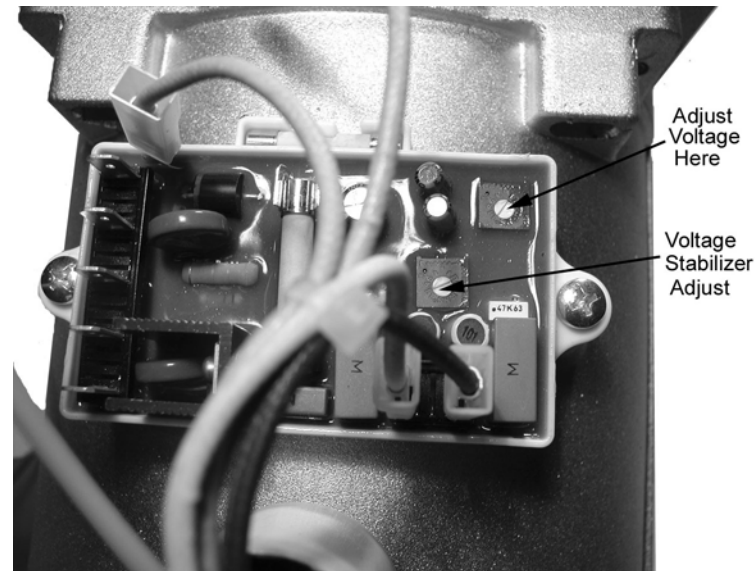

Figure 1
The voltage regulator (figure 1) is connected to the main winding, excitation winding and to the rotor winding via slip rings and brush assembly. Input (sensing) voltage from one half of the main winding is compared to a reference voltage, which can be adjusted by a voltage adjustment pot. If the sensing voltage is lower than the reference voltage (low outlet socket voltage), the regulator electronically switches more current to the rotor. If the sensing voltage is higher than the reference voltage (high outlet socket voltage), the regulator will reduce the amount of current to the rotor and the voltage output will decrease. This constant electronic adjustment of the current to the rotor maintains a steady output voltage.
3. Adjust voltage as indicated at figure 1 using a fine point screwdriver.
Note: The secondary pot (stabilizing) at figure 1 should not normally require adjustment. This adjustment is generally set at production. When fitting a new voltage regulator set this to the mid position and adjust voltage as described above.